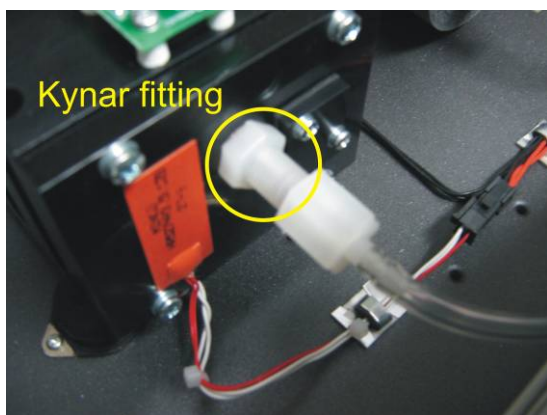

Figure 57 – Kynar Fitting Containing Orifice and Sintered Filter
2. Unscrew the Kynar nut from the fitting (anti-clockwise) on the **Measurement Cell** (refer to Figure 57).